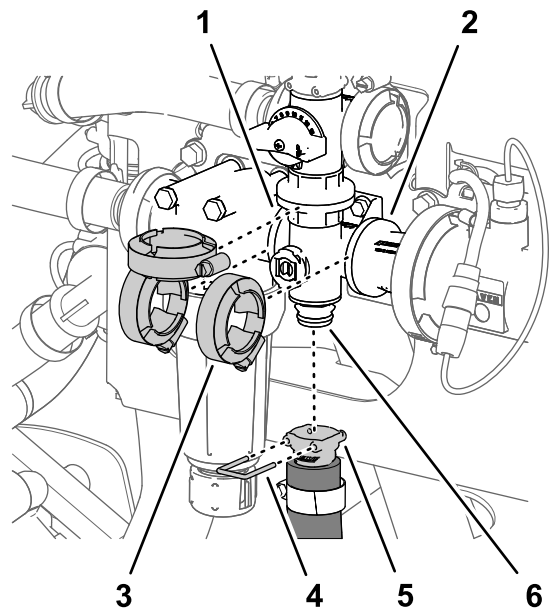
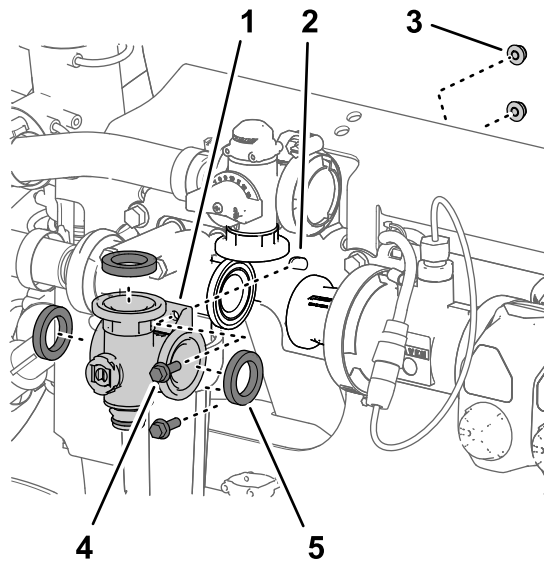

Figure 121
Figure 120
1. Align the flange of the agitation-valve manifold and 3 gaskets with the flanges of the agitation-bypass valve, pressure filter head, and coupling adapter (Figure 120 and Figure 121).
2. Loosely secure the agitation-valve manifold to the agitation-bypass valve, pressure filter head, and coupling adapter (Figure 121) with the 3 flange clamps that you removed in Removing the Agitation-Manifold Valve \(page 78\).
5. Tighten the 3 flange clamps by hand (Figure 121).
6. Assemble the quick-connect coupler of the agitation hose onto the quick-connect fitting of the agitation-valve manifold with the quick-connect pin (Figure 121).